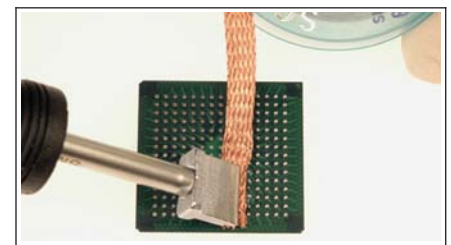

Figure 1
1. Remove excess solder in accordance with procedures 4.1.2, 4.1.3, or 4.2.1 (see Figure 1).